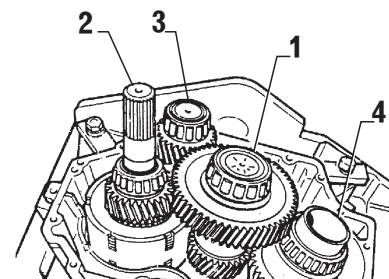

FIG. 6-2
- intermediate shaft (item 1, Fig. 6-2)
- input shaft (item 2, Fig. 6-2)
- output shaft (item 4, Fig. 6-2)
- reversal shaft (item 3 Fig. 6-2).
Check all gears, bearings and three piston rings on the input shaft (item 4, Fig. 6-2) for signs of wear or failure. If any of the gears are damaged or showing signs of excessive wear ZF-HURTH MARINE recommends replacing the complete gear set.